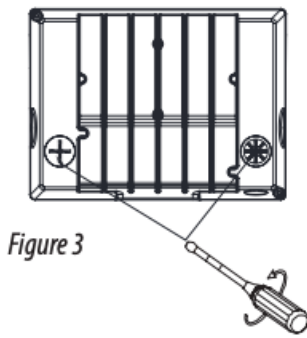

Figure 3
1. Open the metal plug and plastic plug counterclockwise with a screwdriver (Figure 3) , then slide the switch up and down to adjust the power controller, CCT selector or photocell controller for your application. (Figure 4)